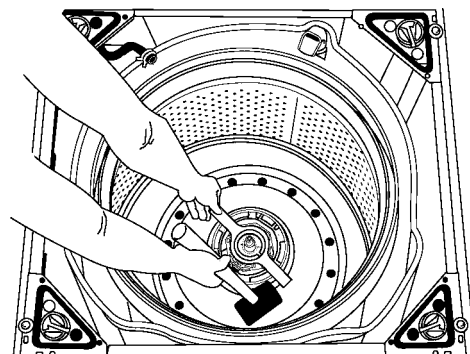

Fig. 3-14
10. Use a spanner wrench and mallet to loosen the spanner nut securing the universal joint assembly to the drive block. (Fig. 3-14)